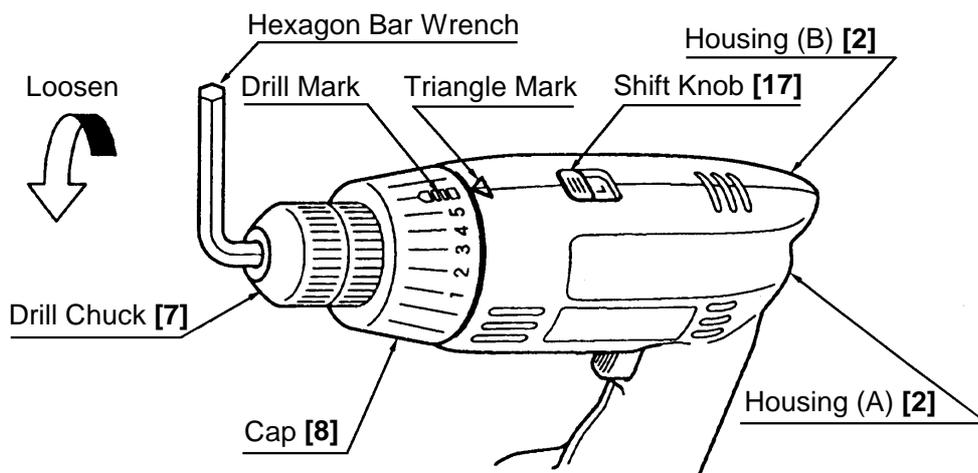

Fig. 7
(1) Removing the Drill Chuck **[7]**.(See Fig.7.)
(d) Put a M10 hexagon bar wrench in the Drill Chuck **[7]** as indicated in Fig. 7 and gently knock the hexagon bar wrench with a wood hammer so that the Drill Chuck **[7]** is rotated counterclockwise when the unit is viewed from the Drill Chuck end. When the Drill Chuck **[7]** mount becomes loose, remove the Drill Chuck **[7]** by turning it counterclockwise by hand.